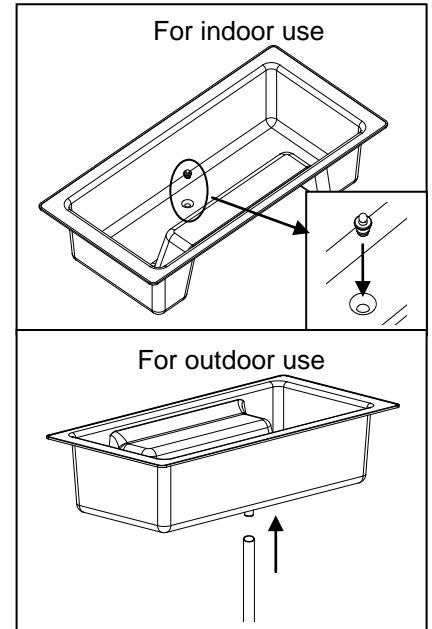

Fig. 7
7. The planter basket has a drain hole. For indoor use, use the rubber stopper and insure it is seated properly. Fill it with water to insure there is no leakage. For outdoor use, do not use the rubber stopper instead connect the 1/2" ID tube to the adapter. Fig. 7